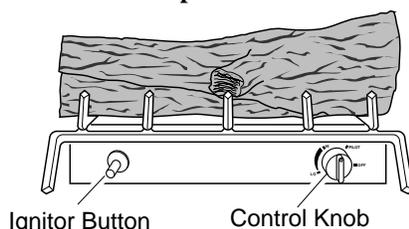

Figure 21 - Control Knob and Ignitor Button Location
4. Wait five (5) minutes to clear out any gas. Then smell for gas, including near the floor. If you smell gas, **STOP!** Follow "B" in the safety information, column 1. If you don't smell gas, go to the next step.
5. Turn control knob counterclockwise to the PILOT position. Press in control knob for five (5) seconds (see Figure 21).